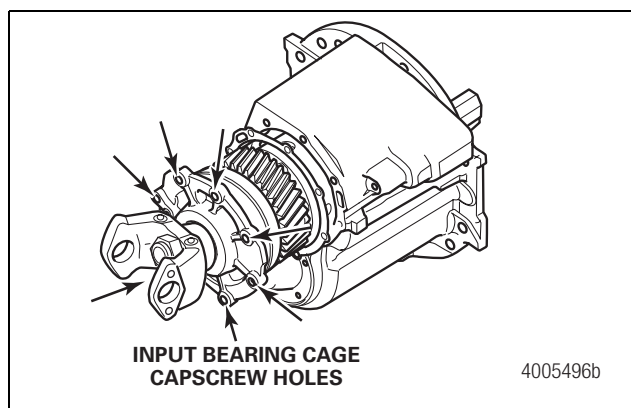

Figure 2
5. Remove the seven input bearing cage cap screws. Figure 2.